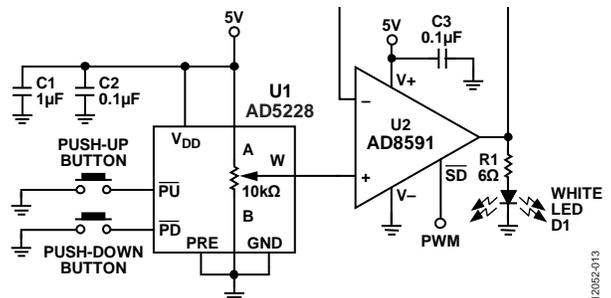

Figure 19. Low Cost Adjustable LED Driver
The AD5228 can be used in many electronics level adjustments, such as LED drivers for LCD panel backlight controls. Figure 19 shows a manually adjustable LED driver. The AD5228 (U1) sets the voltage across the white LED D1 for brightness control. Because the AD8591 (U2) handles up to 250 mA of output current, a typical white LED with a forward voltage (VF) of 3.5 V requires a resistor, R_1 , to limit U2 current. This circuit is simple, but not power efficient. The shutdown pin of U2 can be toggled with a pulse-width modulation (PWM) signal to conserve power.